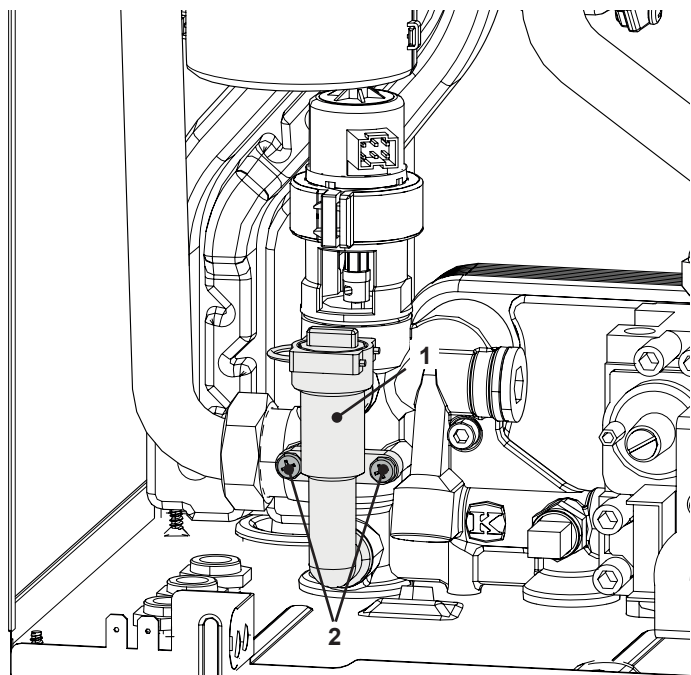

Figure 16.2
- 3 Unscrew the screws "2" and pull the by-pass valve "1" (Figure 16.2).
- 4 Reassemble the by-pass valve as illustrated in Figure 16.2